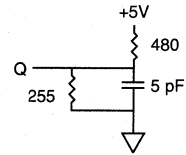

Fig. 2 OUTPUT LOAD EQUIVALENT
- ^tHZCE and ^tHZWE are specified with CL = 5pF as in Fig. 2. Transition is measured ±500mV from steady state voltage.